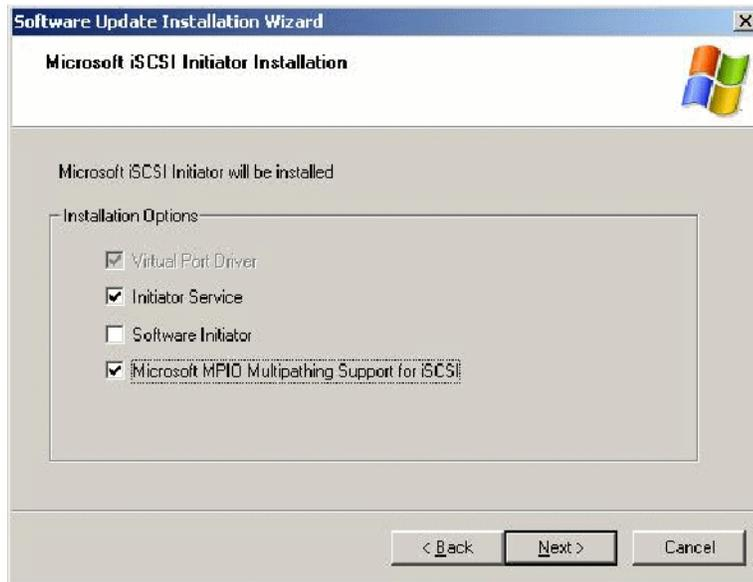

Figure 2-25 Microsoft iSCSI Initiator Installation window
3. Click **Next** to proceed. You will see a window similar to Figure 2-25.